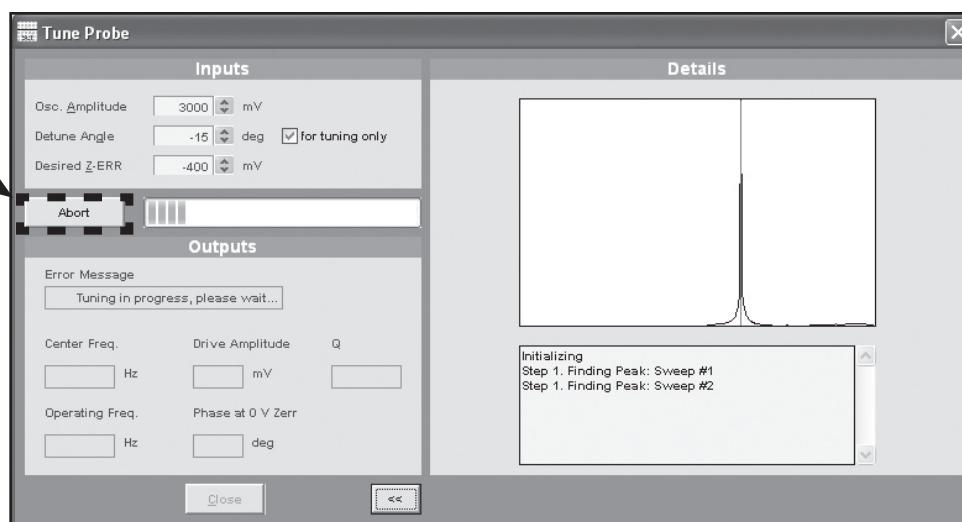

Figure 3.29: Auto-tune Window
2. Click the Tune button as shown in Figure 3.29 below.